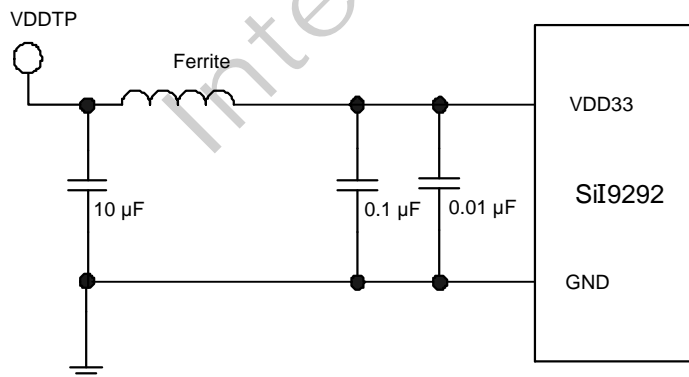

Figure 5. Test Point VDDTP for VDD Noise Tolerance Specification
2. The supply voltage noise is measured at test point VDDTP as shown in Figure 5. The ferrite bead provides filtering of power supply noise.